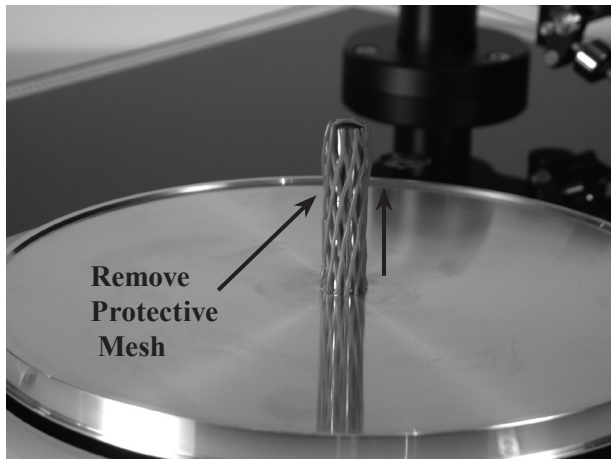

Figure 1
1. Remove the protective mesh from the Turntable Vertical Bearing Shaft. Refer to figure 1.